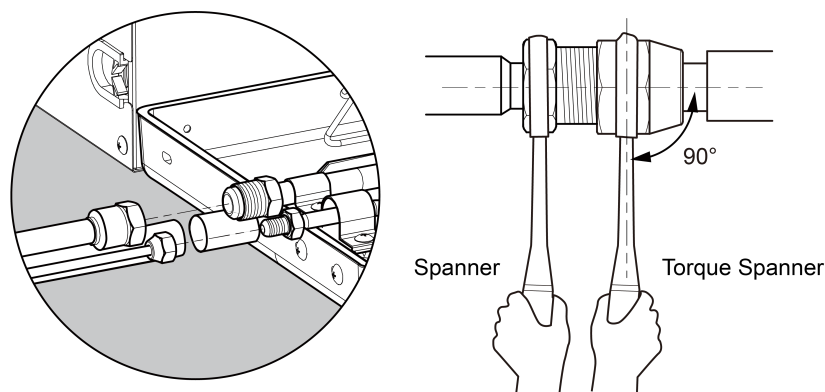

Fig.3.4.1
- (1) Before welding the pipeline sealing cap, please make sure there's no refrigerant in pipeline. If welding it directly, it may cause unnecessary property damage or personal injury.
- (2) Conform to the following principles during pipe connection: Connection pipeline should be as short as possible. The height difference between indoor and outdoor units should be as short as possible. Keep number of bends as little as possible. The radius of curvature should be as large as possible.
- (3) Weld the connection pipes between indoor and outdoor unit. Please strictly conform to the requirements for welding process. Rosin joints and pin holes are not allowable.
- (4) When laying the pipes, be careful not to deform them. The radius of bending parts should be more than 200mm(7-7/8 inch). The pipes can't be repeatedly bent or stretched, otherwise the material will get harden. Do not bend or stretch the pipe over three times at the same position.
- (5) Please use a torque wrench to connect union nut on the indoor unit. See the Fig.3.4.1 as below.